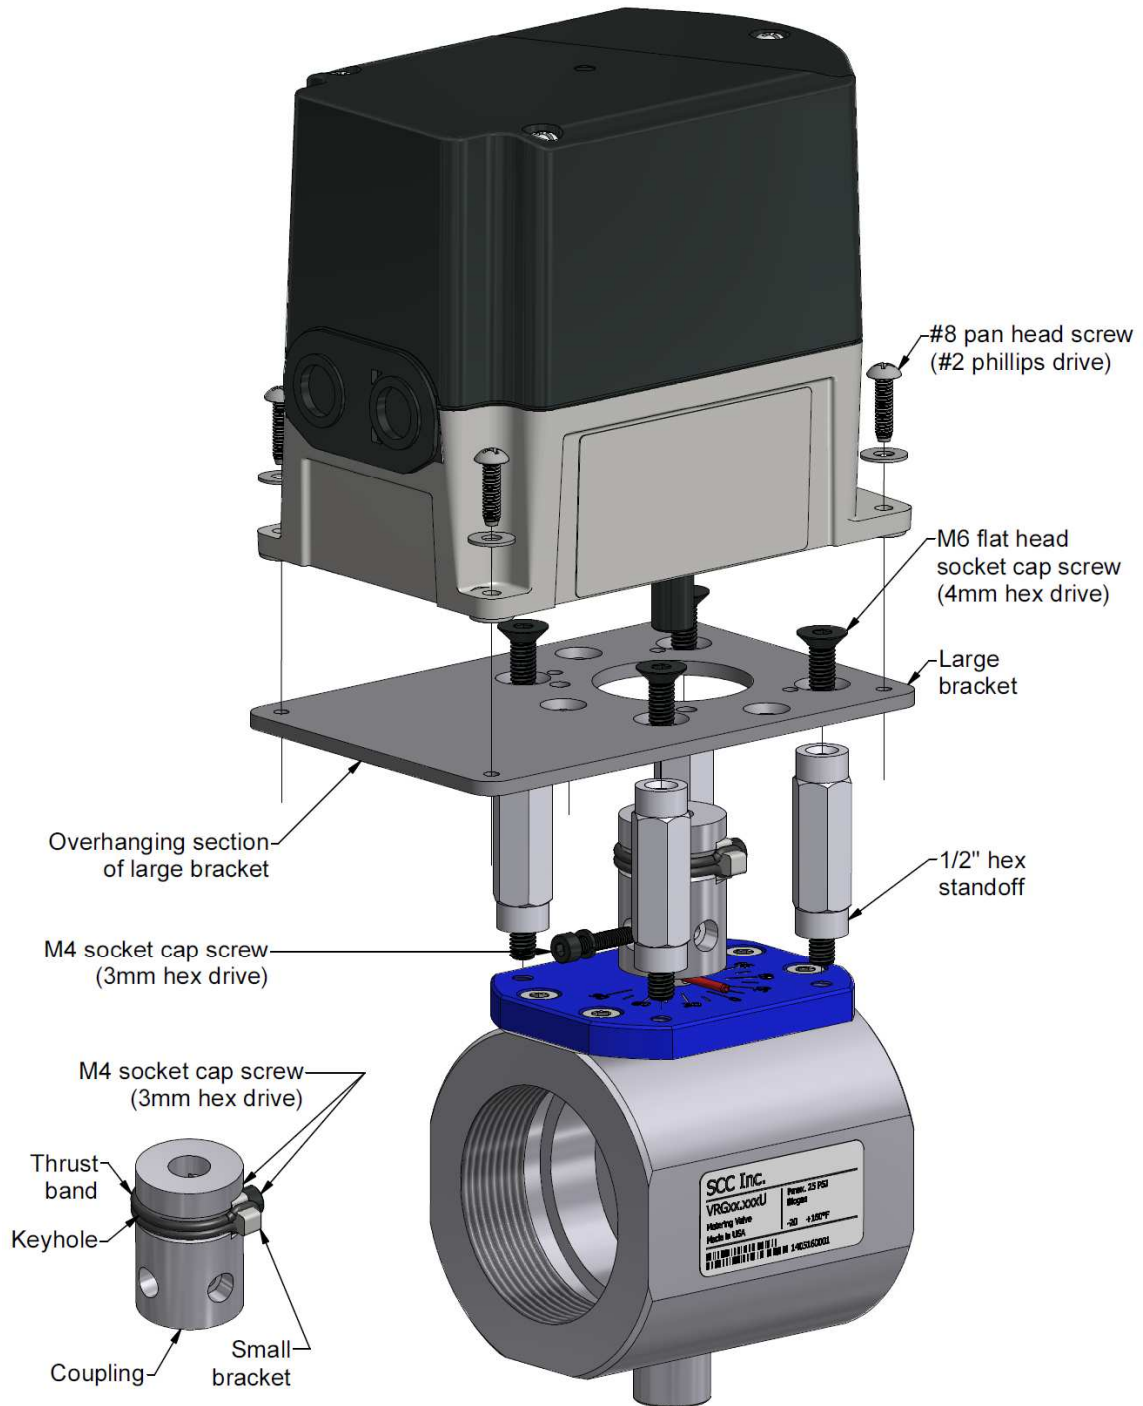

Figure 1: Exploded View of VA45.2-NFB-200
In some cases, the actuator may need to be removed from the valve temporarily during piping. Additionally, the actuator and bracket can be rotated relative to the valve for wiring purposes. The instructions below and the exploded views in Figures 1 and 2 are a guide to proper disassembly and reassembly of a VA... valve actuator assembly with a VRG... butterfly valve.
7. **If the (4) 1/2" hex standoffs were removed in step 6**, thread them back into the threaded holes on top of the valve and tighten with a crescent wrench. **If the coupling was removed in step 6**, slide the coupling back over the valve shaft. Insert the M4 socket cap screw and lock washer through the coupling and valve shaft so that the coupling is in the desired position of the (4) clockable positions. The valve should still be at the closed / 0° position.
8. Fasten the large bracket back onto the standoffs with the (4) M6 flat head socket cap screws (4mm hex drive) so that the overhanging section of the large bracket is on the opposite side of the coupling as the small bracket.
9. Insert a small flat head screwdriver into the keyhole (see Figure 1) between the thrust band, and with the other hand, grab the actuator and push it into the coupling until the actuator shaft clears the small bracket. Remove the screwdriver from the keyhole.
11. Fasten the actuator to the large bracket with the (4) #8 pan head screws (#2 phillips drive) and associated washers. Then, tighten the (2) M4 socket cap screws (3mm hex drive) to secure the small bracket to the flat of the D-shaft.